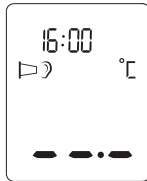

Figure 2
2. Press the **⏻** *BUTTON*, The display is activated to show all segments. After self-checking Figure 2 appears on the display screen with beeps, so you can start a new measurement. If error messages appears, it means the thermometer is not ready for measurement.